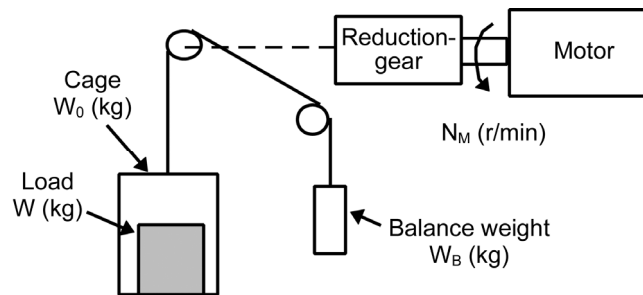
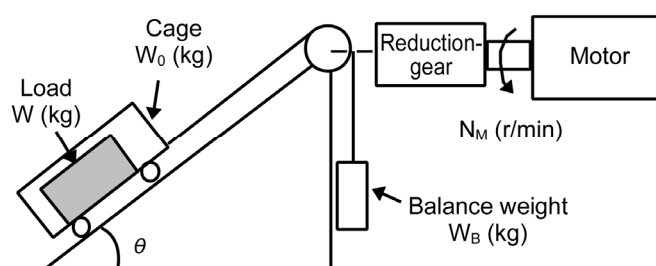

Figure 10.1-8 Vertical Lift Load
Figure 10.1-9 Inclined Lift Load
A simplified mechanical configuration is assumed as shown in Figure 10.1-8. If the mass of the cage is W_0 (kg), the load is W (kg), and the balance weight is W_B (kg), then the forces F (N) required for lifting the load up and down are expressed as follows:
Although the mechanical configuration of an inclined lift load is similar to that of a vertical lift load, unignorable friction force in the inclined lift makes a difference; in an inclined lift load, there is a distinct difference between the expression to calculate the lift force F (N) for lifting up and that for lifting down. If the incline angle is θ , and the friction coefficient is μ , as shown in the Figure 10.1-9, the driving force F (N) is expressed as follows:
The moment of inertia J ($\text{kg}\cdot\text{m}^2$) of the loads connected with a rope as shown in Figure 10.1-8 and Figure 10.1-9 is calculated with the following equation using the mass of all moving objects, although the motion directions of those loads are different.